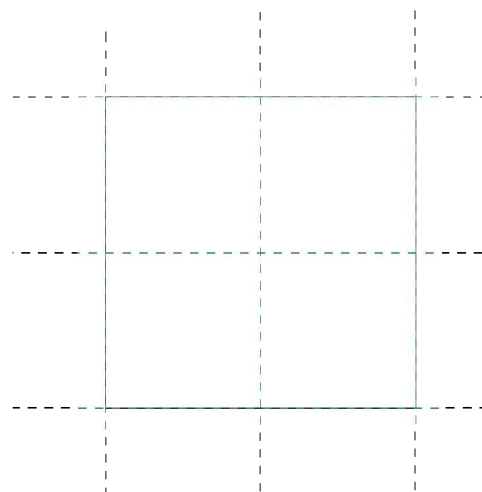

FIGURE 15-2.13 Side of 3D box aligned with *Reference Planes*
23. **Align** and **Lock** the other three sides of the box (Figure 15-2.13).